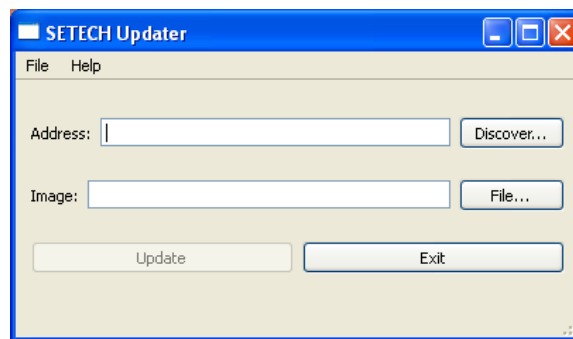

Figure 7 - SETECH Updater Window
1. Double-click on the SETECH_Uploader.exe icon to start the installation. The system displays the SETECH Updater window (see Figure 7).